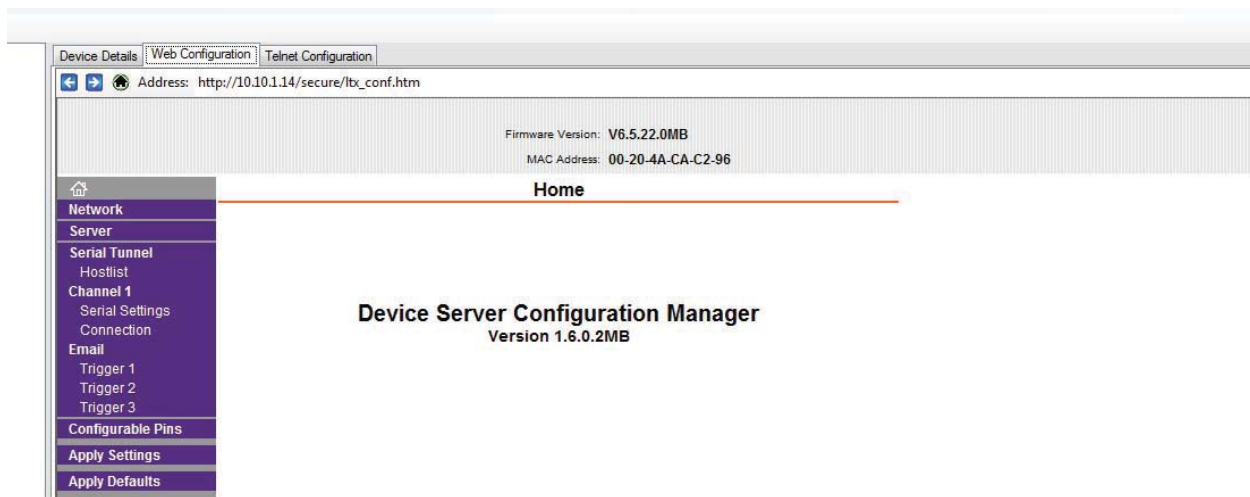

Figure 4-8 Device Server Configuration Manager
3. The Device Server Configuration Manager will open as shown in Figure 4-8.